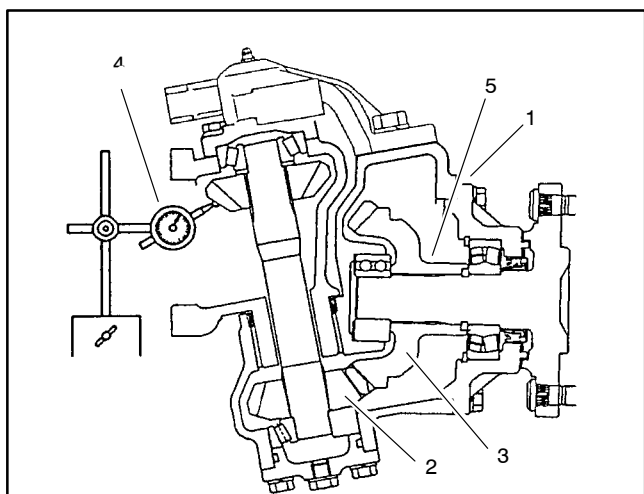

Figure 10
9. Remove the bevel gear case/axle case assembly from the axle support. Coat a new O-ring with grease and temporarily install the axle cover assembly. Position a dial indicator at the tooth's center. Prevent the axle from turning and measure the lower bevel gear to axle gear backlash (Fig. 10).